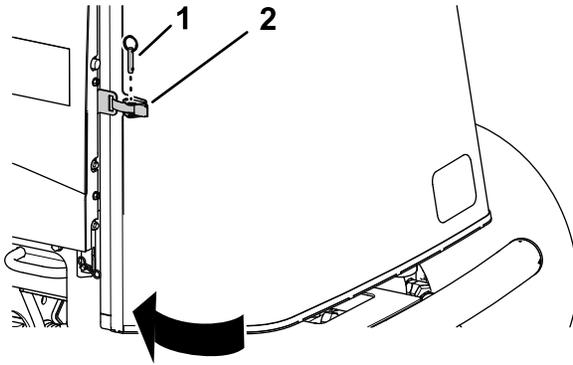

Figure 67
1. Close and latch the screen (Figure 67).